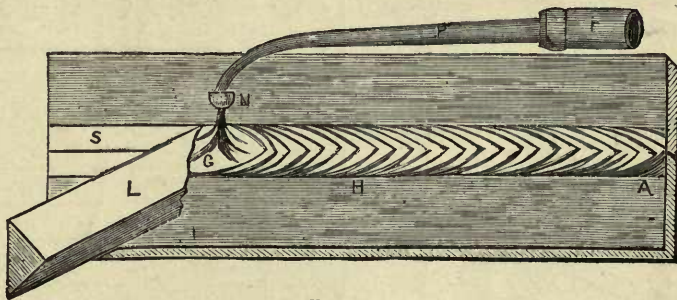
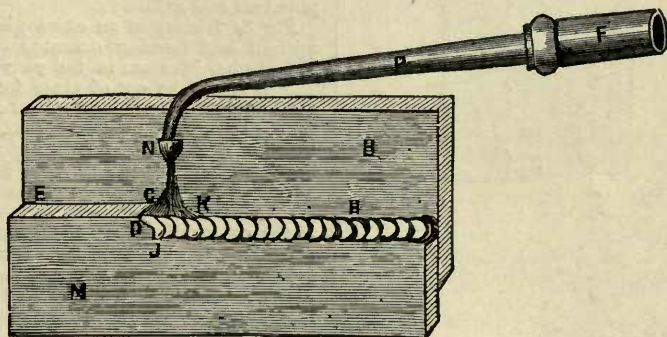
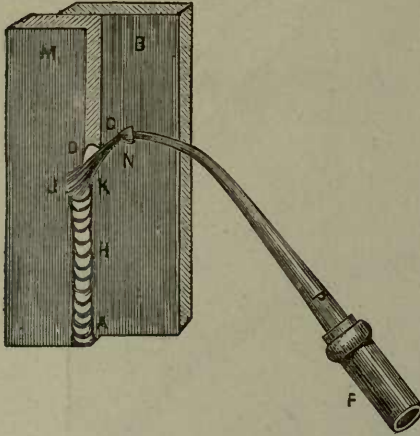

FIG. 75.
FIG. 80
FIG. 81.
NOTICE.—It is important that you hold the blow pipe straight and in a line with the shaving, and nearly level over that part which you have burnt, as illustrated in Fig. 75. To put the pipe before that part which you have burnt is burning back-handed.
N.B.—The stick metal L, Fig. 75, is shown leaned rather too much to the left, but its true position will be acquired by practice. You must continue to practice this class of burning, occasionally trying the flat and then the lapped until you feel yourself thoroughly competent to do the work with freedom and ease, and until you can execute it so that it shall, when finished, have the appearance of that shown at Fig. 75, which is taken from a photograph of some work done by myself expressly for this work.
upright work. I have before said that it is necessary to hold the pipe in a line with the work, as at Fig. 75. The pipe should be held as shown at Fig. 80, when at work on side or horizontal burning. And if you turn the drawing
Here the pipe in Fig. 80 is in a line with the seam, it is also held near about level. Now refer to Fig. 81; let M be the bottom lead, and B the top.
Fig. 80 is some horizontal burning and a photographic specimen of lead burning done by the author at a contest of plumber's work at South Kensington Museum on the first of March, 1882, in the presence of about a hundred plumbers and architects.
fix the bottom after the sides, so that the burning may be done as shown at Fig 80. The sides are sometimes hung up with straps, burned on as shown at B B; then the tacks nailed to the cross-rail, as also shown. These tacks should not be more than 15in. apart; the top of the sides should be brought over the top of the crown tree, and sufficiently far over the lowest side to allow the rain-water to fall into a gutter; the side is then well nailed to the crown tree. [A further explanation as to the method of fixing the sides will be given later on.] Next the top is put on and burned to the sides, as illustrated upon the crown tree at D D. After this the top joists are put on and the top straps C C, which